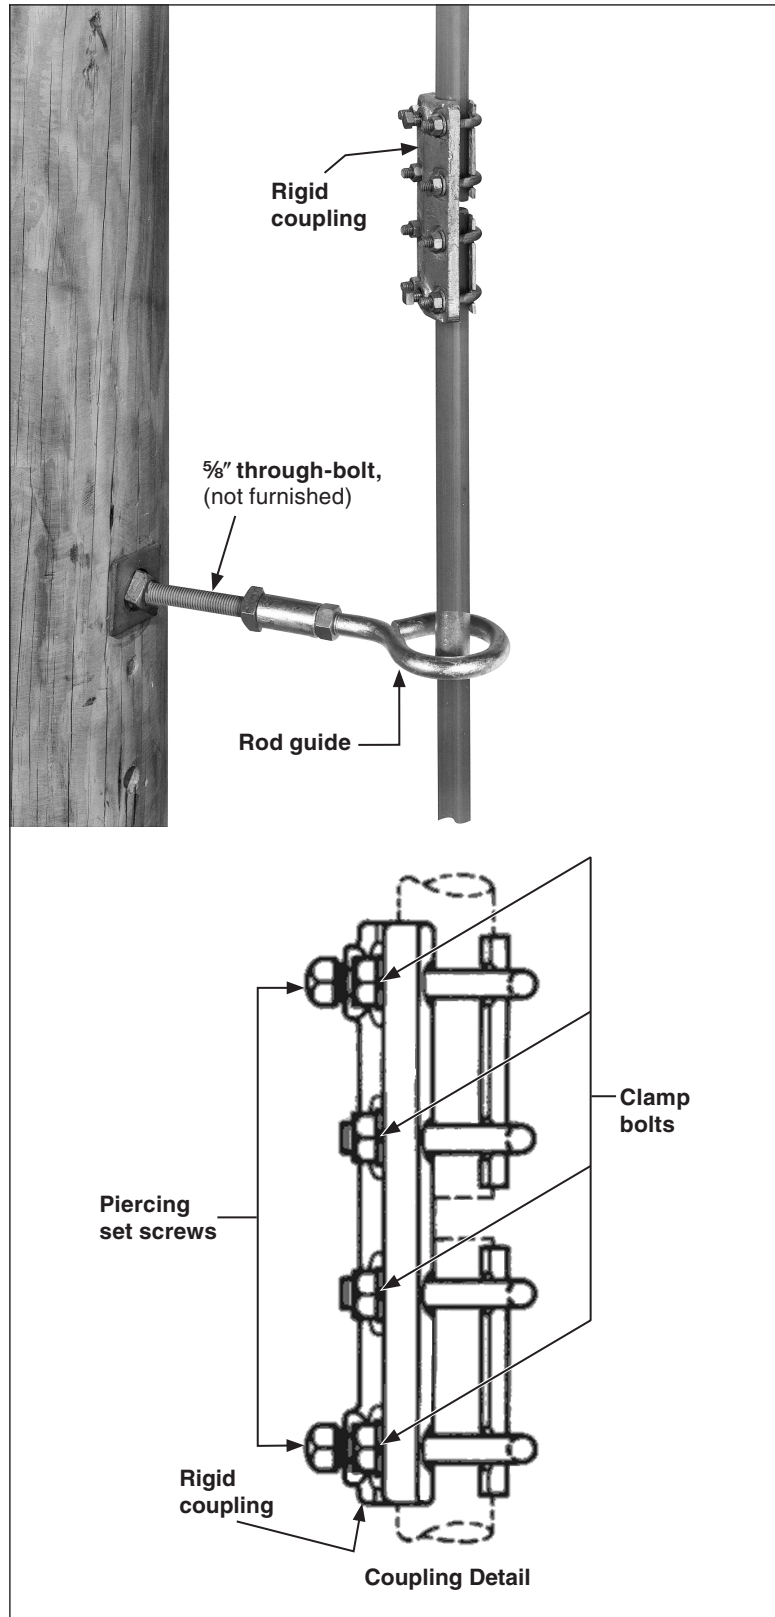

Figure 6. Rod guide and rigid coupling (detail) for use with  $\frac{3}{4}$ " IPS vertical operating pipe.
When installing the vertical operating pipe, it is advisable to completely make up each coupling as work progresses. When installing operating pipe in a rigid coupling, make certain that the set screw does not protrude through the body of the coupling. Back the set screw out of the coupling, if necessary. Torque the clamp bolt to final tightness. Then, securely tighten the set screw. If a one-inch diameter fiberglass insulating section is provided—furnished when the erection drawing (ED) includes the Standard Minor Modification Suffix "-S10"—do not torque the piercing set screw so tightly as to fracture the fiberglass. See Figure 6.
tighten the clamp bolts at both ends of the pipe. Then, securely tighten the piercing set screws. See Figure 6.